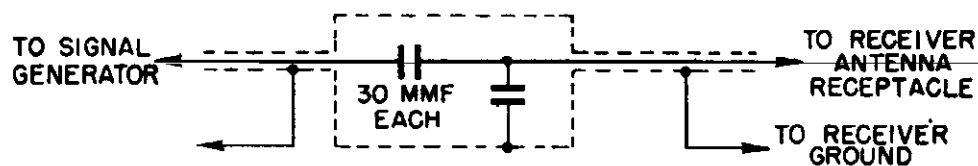

FIGURE 1. DUMMY ANTENNA
5. A special dummy antenna for RF alignment. Construct dummy antenna as shown in Figure 1.